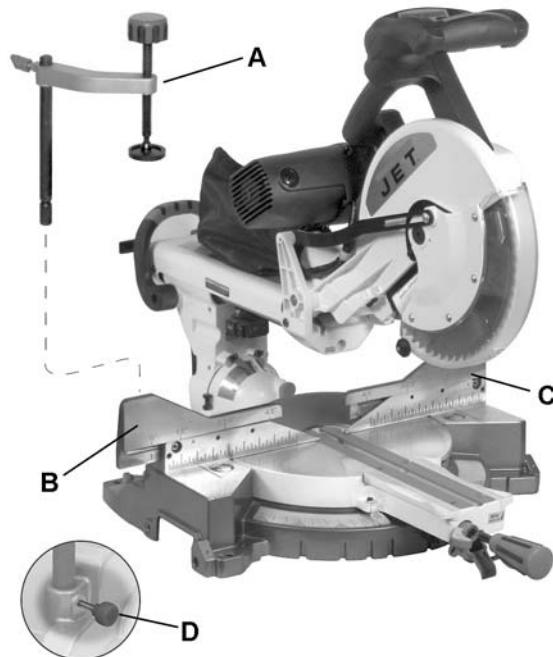

Figure 4
1. Place the *hold-down clamp assembly* (A, Fig. 4) in a mounting hole located behind the right or left fence (B, C).
2. Thread the *hold-down clamp knob* (D) into the hole located at the rear of the saw base.
3. Tighten the *hold-down clamp knob* (D).